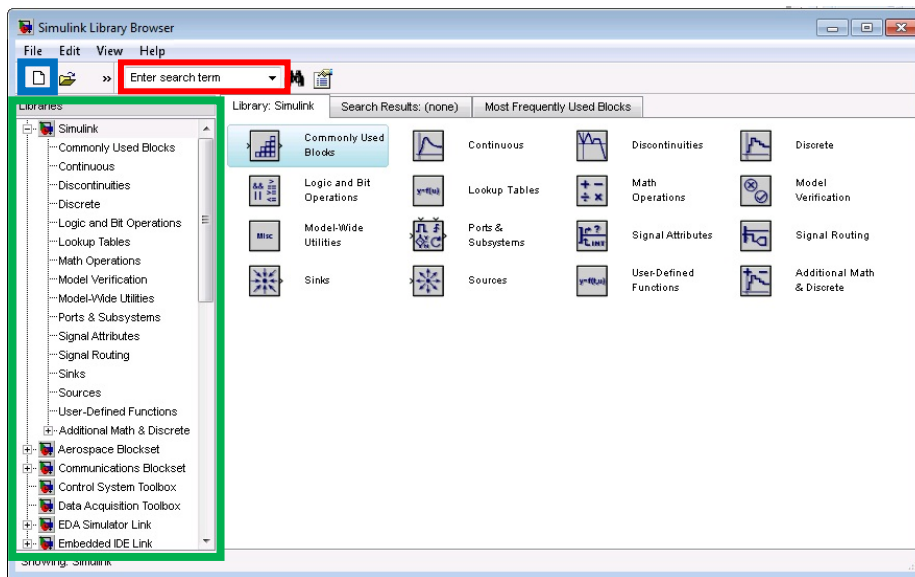

Figure 2: Simulink Library Browser
3. The window that appears is called the Simulink Library Browser. This window contains every component that can be placed into a simulation. The Library Browser window can be searched in two ways, with the search box at the top of the window or with the explorer window to the left of the window. The search bar, highlighted in Red, and the Explorer Window, highlighted in Green are shown in the image below. Create a New Model, click on the New Model Button. The New Model button is located in the top left of the Simulink Library Browser window. The New Model button, highlighted in Blue in Figure 2, is shown below.